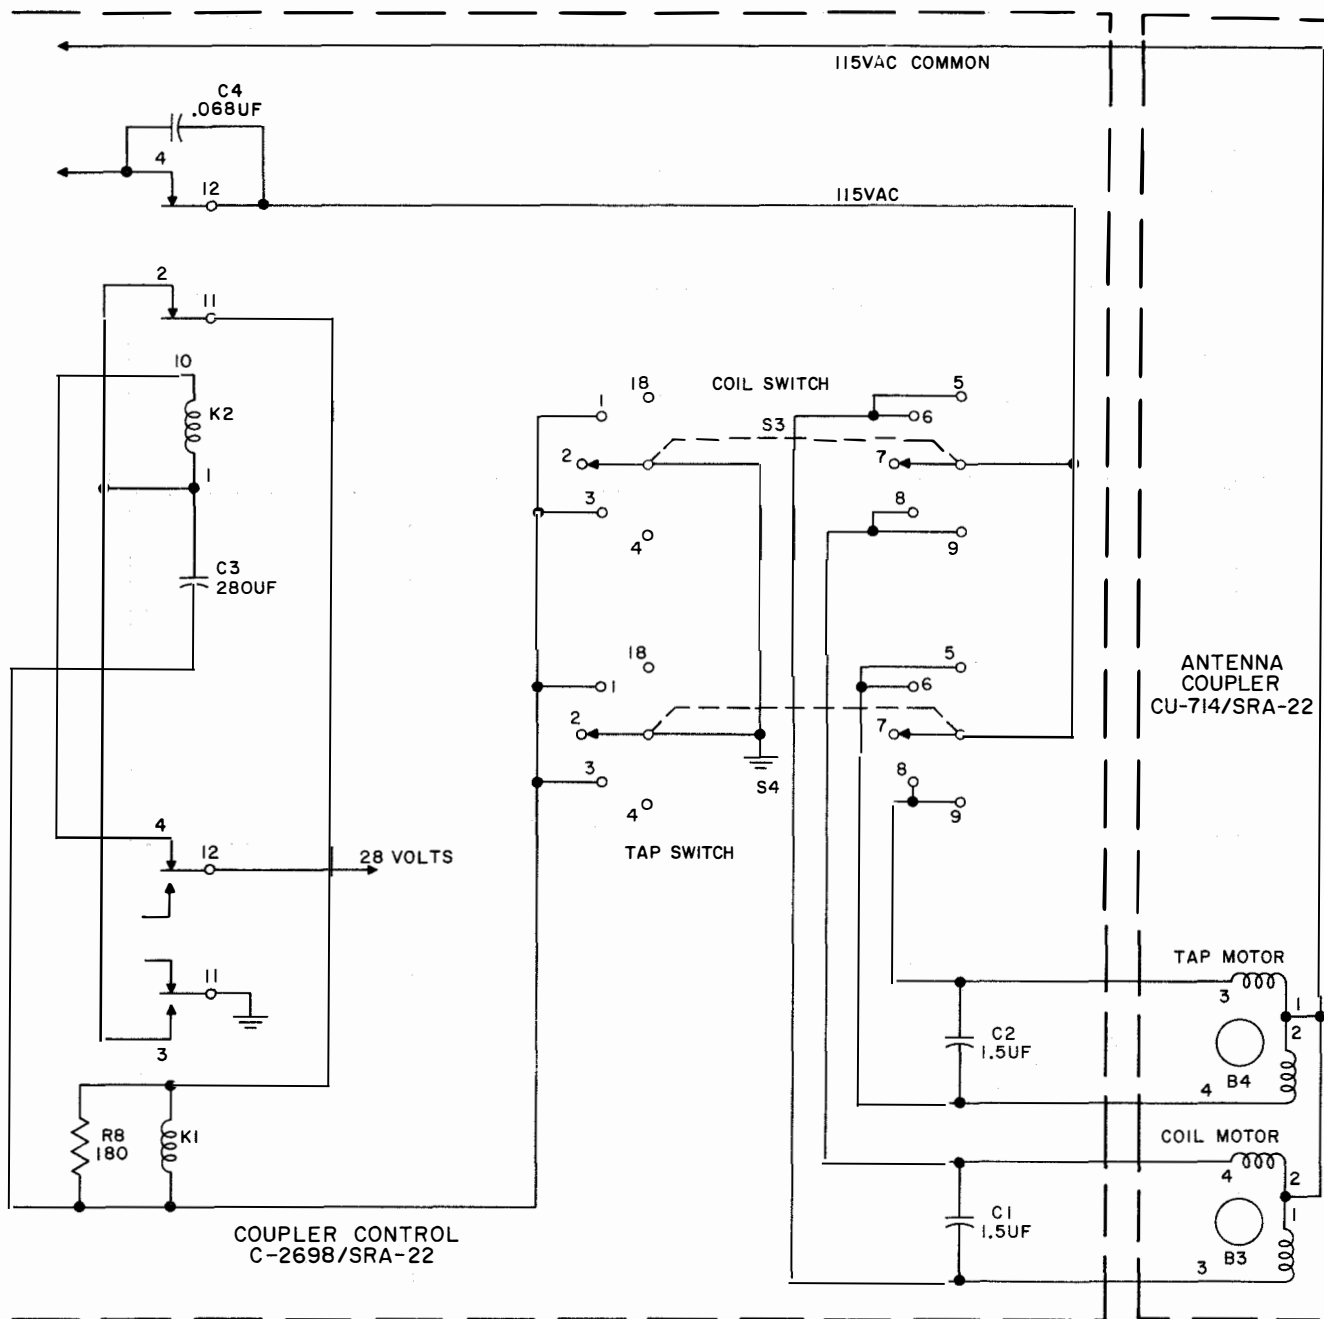

Figure 4-3. COIL-TAP Tuning Circuit, Simplified Schematic Diagram
(2) COIL COARSE TUNE/FINE TUNE. - Refer to figure 4-3 for the simplified schematic diagram. When switch S3 is set to COARSE TUNE (switch contacts 1 and 6), 115 volts ac is applied through contacts 4 and 12 of relay K2 to common of S3 through contact 6 to terminal 3 of coil motor B3 which is in the antenna coupler unit. When switch S3 is set to FINE TUNE (switch contacts 2 and 7), one end of capacitor C3 receives a ground through switch S3.